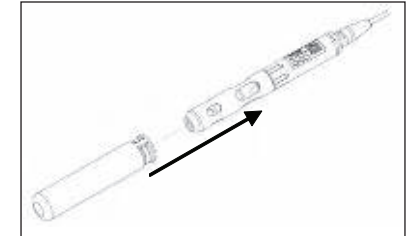

Figure 5
5. Slide the calibration/storage sleeve over the probe guard to keep the probe in a moist atmosphere for storage or calibration (Figure 5). It is important to always keep your sensor in a moist environment so the sensor cap does not dry out. (See Care, Maintenance, and Storage for more information.)